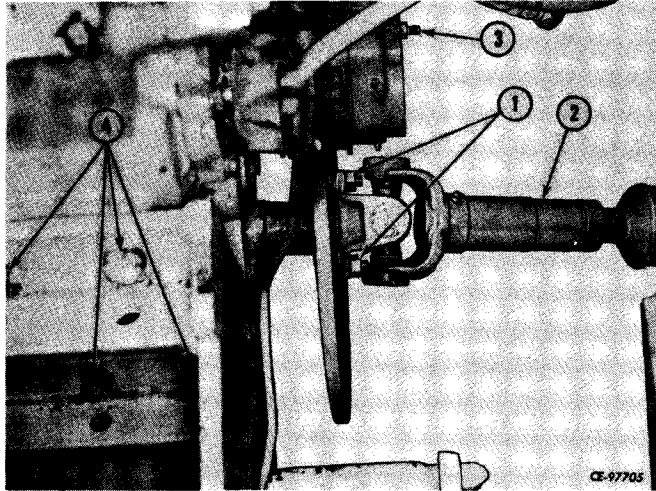

Figure 4-8
Disconnect end of drive shaft (2, Fig. 4-8) from brake disc by removing nuts (1). Disconnect and plug brake hydraulic line from brake caliper (3).
With the aid of a suitable hoist and sling, position transfer case inside front frame. Install and tighten cap screws and lock washers (4, Fig. 4-8).
Connect end of drive shaft (2, Fig. 4-8) to brake disc. Install and tighten nuts (1). Connect hydraulic brake line to brake caliper (3).